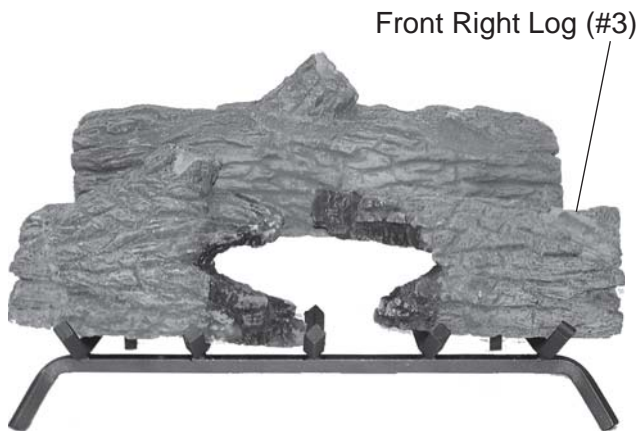

Figure 21 - Placing Front Right Log (#3)
4. Place front right log #3 on the front of the grate and to the right. *See Figure 21.*